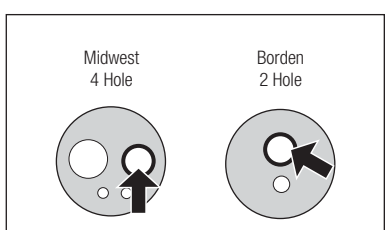

Fig. 11
- 4) Insert the Tip Nozzle into the Drive Air Port of the handpiece (Fig. 11). Hold the handpiece and spray for approximately 2-3 seconds. Apply lubricant until it expels from the handpiece head for at least 2 seconds.